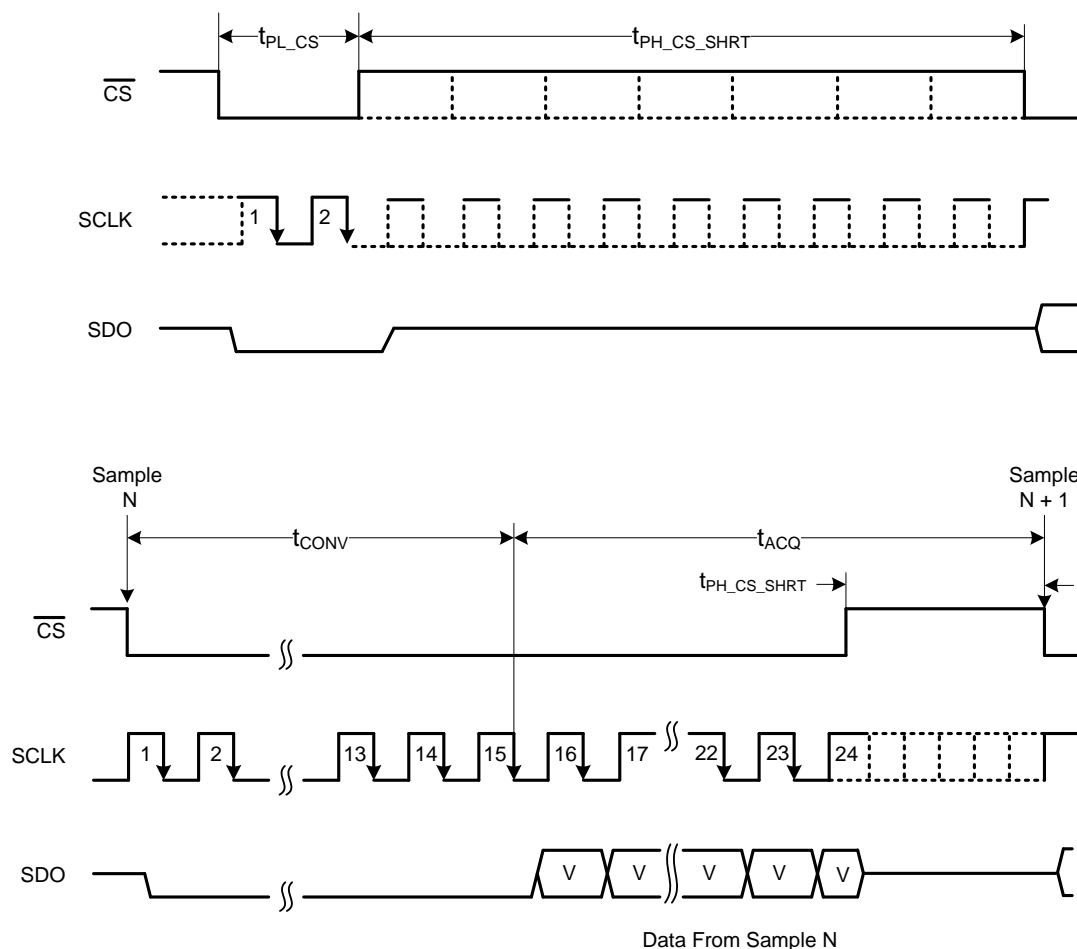

Figure 98. Frame Abort, Reconversion, or Short-Cycling Feature
As discussed in Figure 98, the minimum number of SCLK falling edges (N) that must be provided between the beginning and end of the frame depends on the serial interface mode. The SCLK falling edges (N) program the device and retrieve the conversion result. If \overline{CS} is brought high before the expected number of SCLK falling edges are provided, the current frame is aborted and the device starts sampling the new analog input signal.